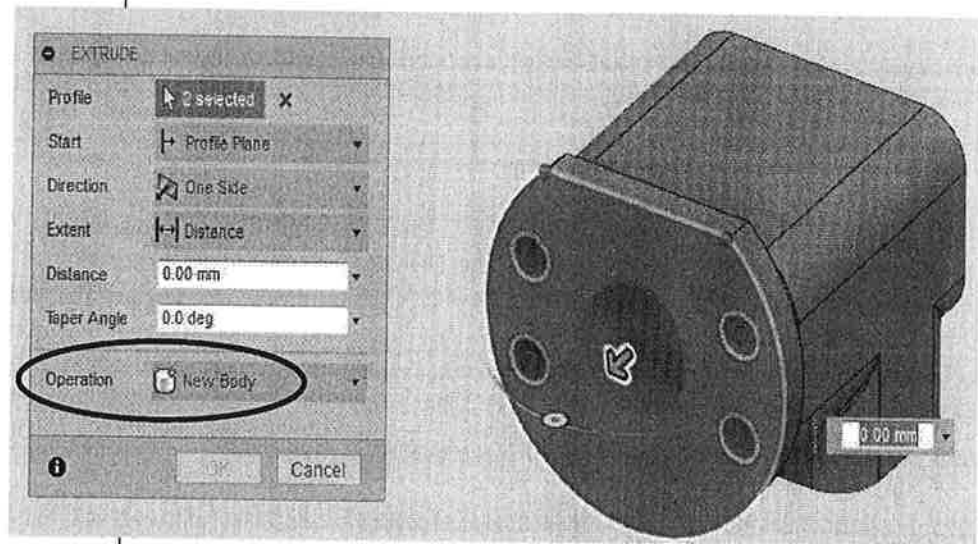

Figure 16–2
All design files contain a **Bodies** folder in the BROWSER. This folder lists all of the bodies in the design. The design shown in Figure 16–1 is a folding easel. It was designed using a combination of the multi-body and distributed design methods. All of the wooden components in the easel were created in the context of the single design using bodies, and all of the hardware were inserted. Joints can be added to assign the required degrees of freedom that enable the easel to collapse and expand.
When using a multi-body design method, you must use the *Operation* drop-down list to explicitly create a new feature as a separate body. Figure 16–2 shows a new extruded feature being added with the **New Body** Operation selected to create the feature as a new body.
- Use the  (Split Body) tool on the MODIFY panel to split an existing body into two bodies. This is done by selecting a existing body to split (*Body to Split*) and a reference that will be used to split the selected body (*Splitting Tool*). The splitting tool can be a profile, face, or plane that divides the body. You can also select multiple non-intersecting bodies as the splitting tool. Figure 16–3 shows an example where a design change was required and geometry that was previously created as one body needed to be split. The splitting tool in this example was a construction plane.